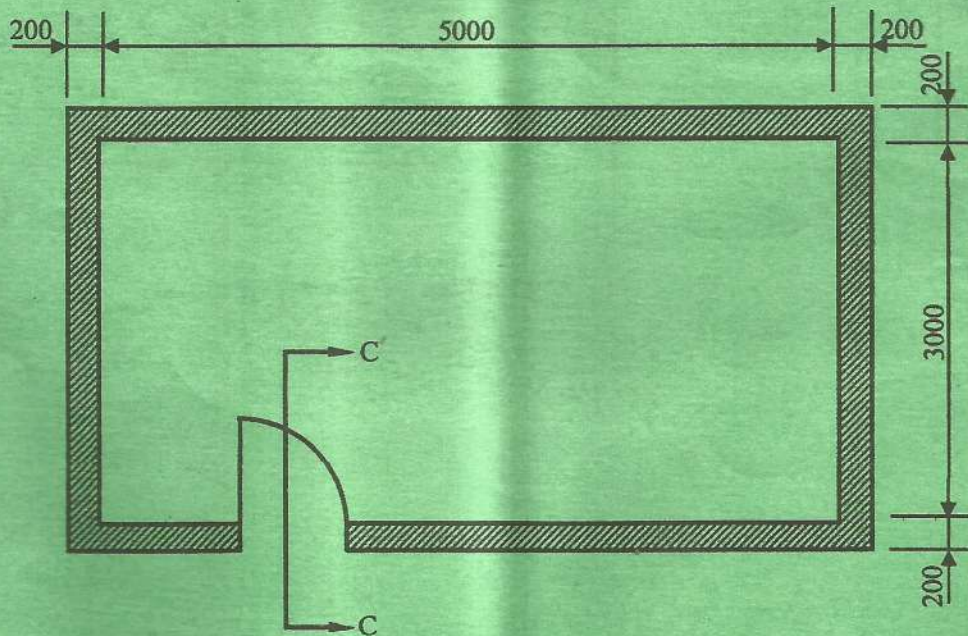

Fig. 3: Floor Plan of a Domestic Building
- (c) **Figure 3** shows a floor plan of a domestic building. Draw a vertical section X-X to a scale of 1:20 up to and including the wall plate using the information given. (15 marks)